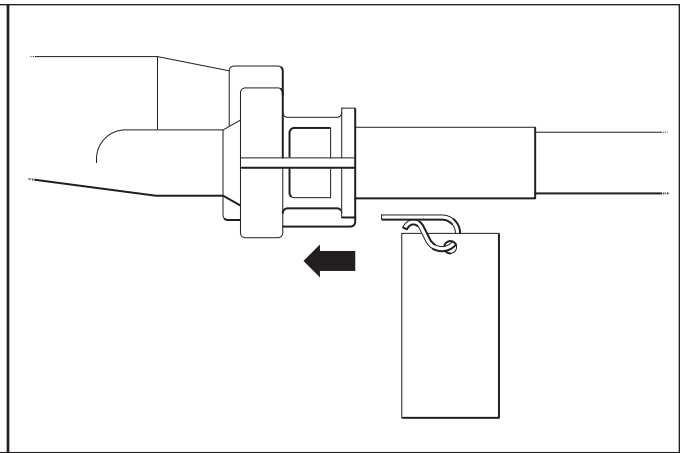

Figure 6.
**STEP 3.** Replace pin as shown in Figure 6, making sure that it is fully seated. If pin cannot be inserted, the cable is not fully seated in the helm. Push on cable to ensure that it is fully home. **DO NOT REMOVE TAG FROM PIN.**